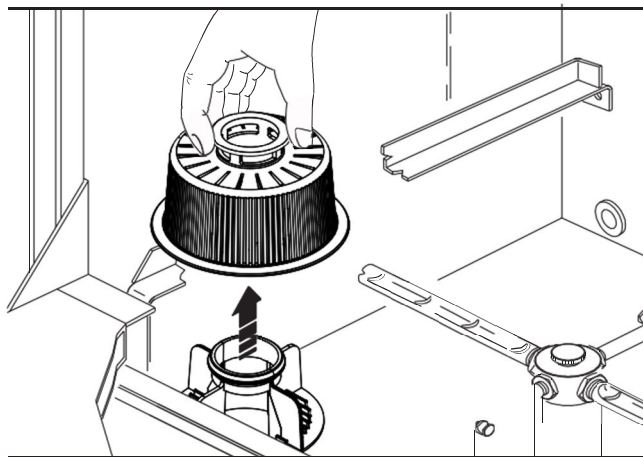

Fig. 17
8. Remove and clean the wash pump filter (fig. 17) and, if applicable, the tank filters possible
7. Remove and clean the wash pump filter (fig. 17) and, if applicable, the tank filters possible